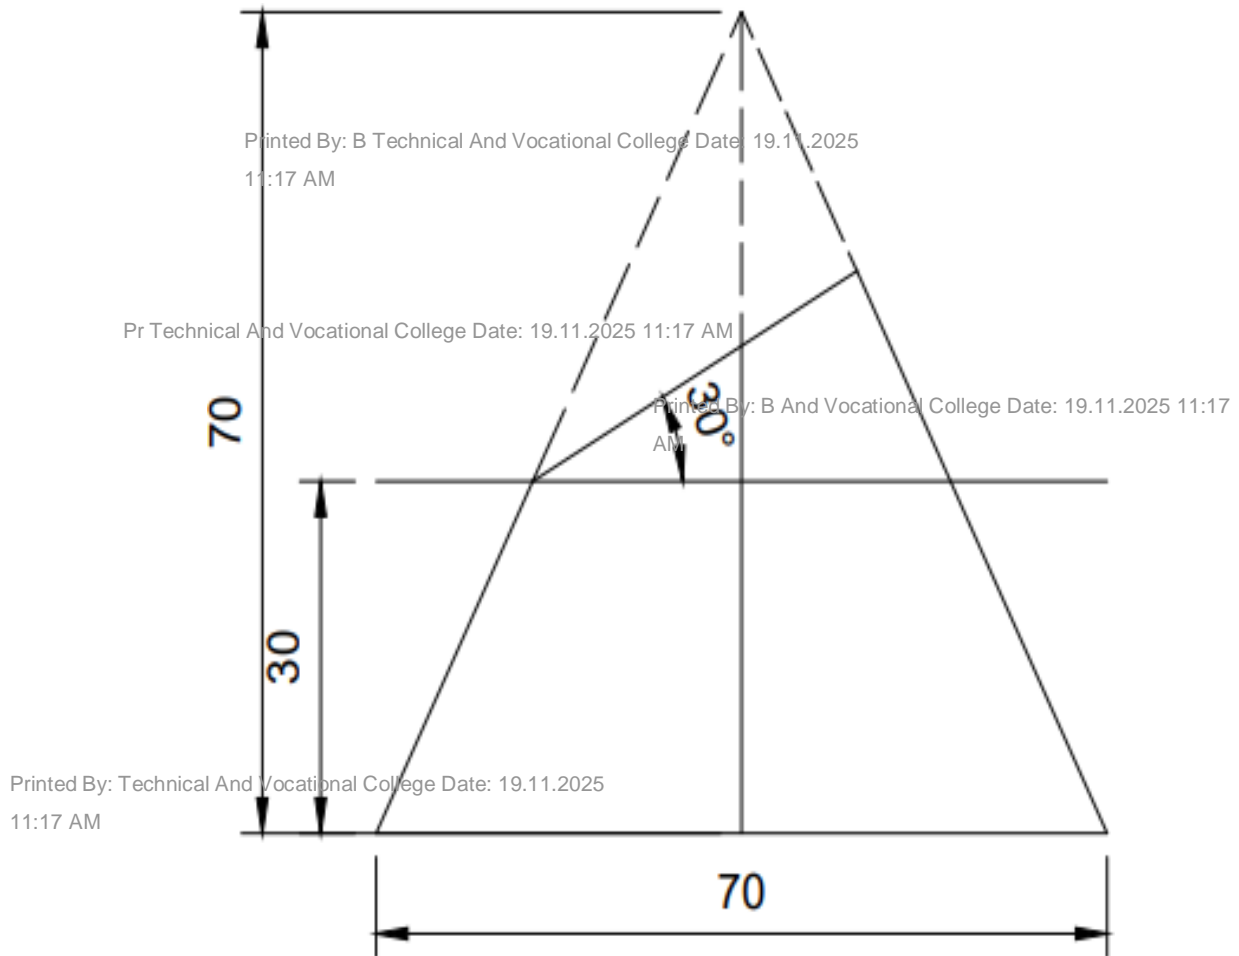

FIGURE 3
13. a. As an engineering intern at a Metalworks Solutions industry, you are tasked to design a machine component shaped as a truncated square pyramid. Using the view provided in Figure 3: